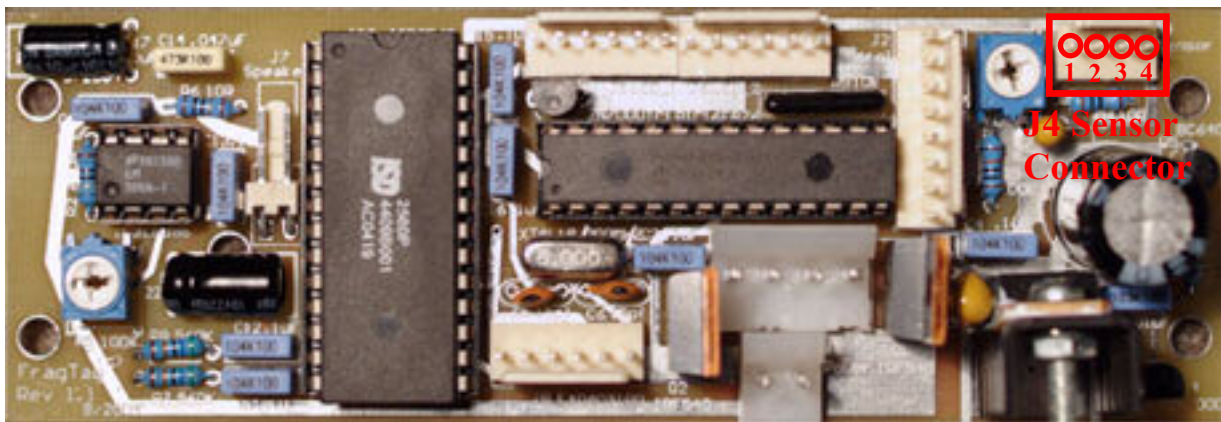

Figure 15. J4 Sensor Connector
- 1- J4 (refer Figure 15) requires a 4-way standard .100" polarised and locking header socket. J4 is not currently used on this product.